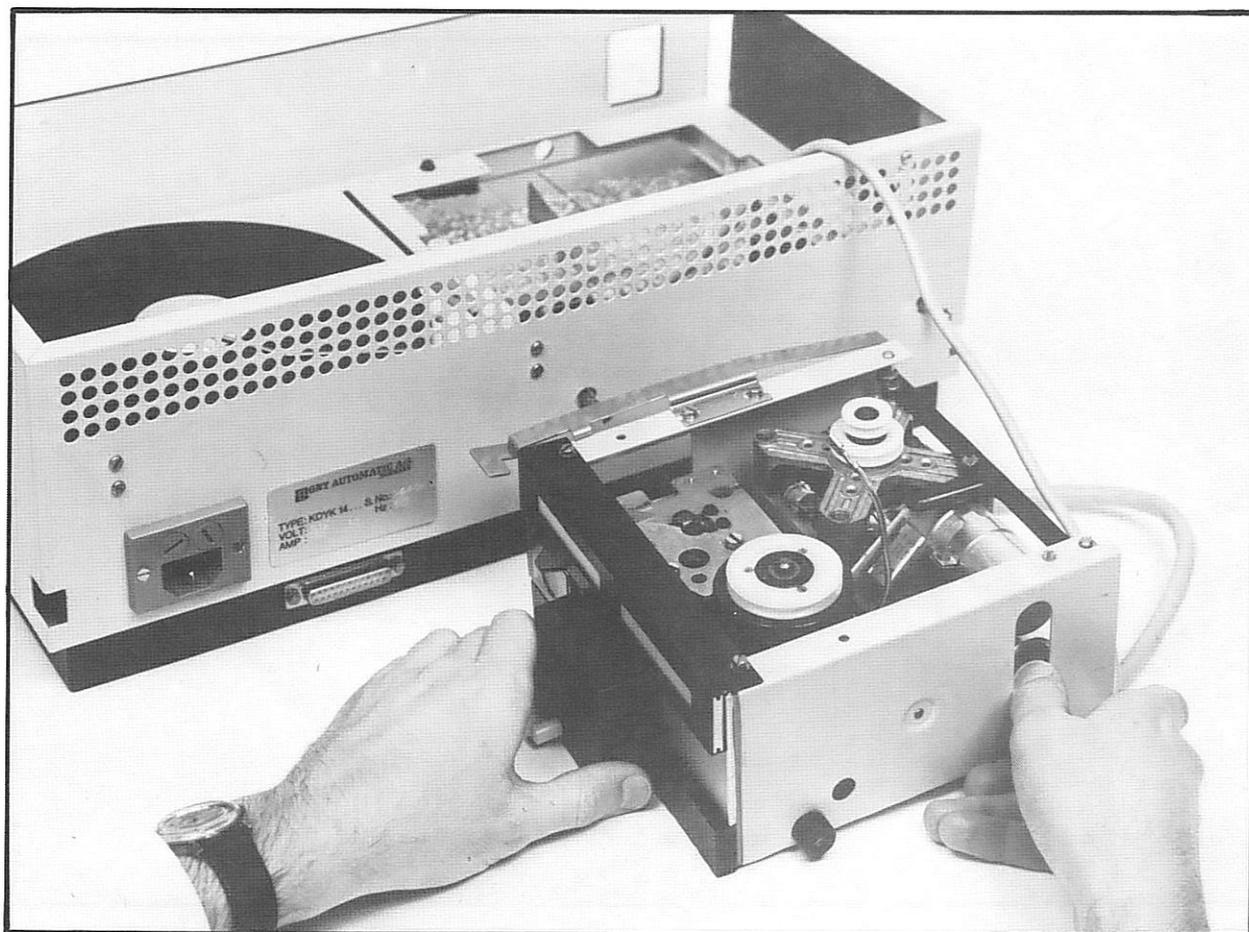

Fig. 6.35 Releasing Locking Rod
- c) Release the locking rod from the catch on the right hand side of the housing. See Fig. 6.35.